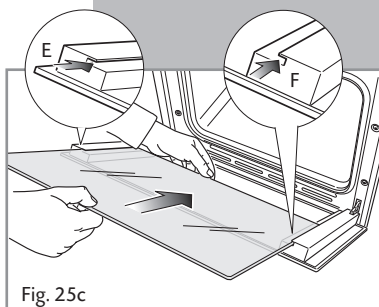

Fig. 25c
- Insert the inner pane in the left **E** and right **F** side guides (fig. 25c) and gently let it slide up to the retainers **H** (fig. 25d).